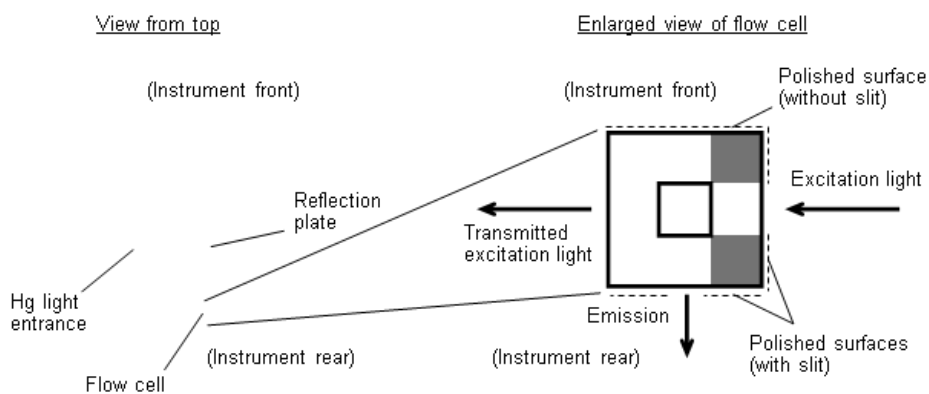

Fig.6-8 Assembly of a flow pool
- ① Assemble the flow cell into the cell holder in the orientation shown in Fig.6-8 and fix it with the cell clamp.
- ② Tighten the fixing screws 1 and 2 on the upper and lower sides.
When the flow pool is set to the pool base, please be careful not to mistake the installation direction of the gloss surface of the flow pool (see Figure 6-8). If the installation direction is wrong, the original performance of the instrument may not be obtained.